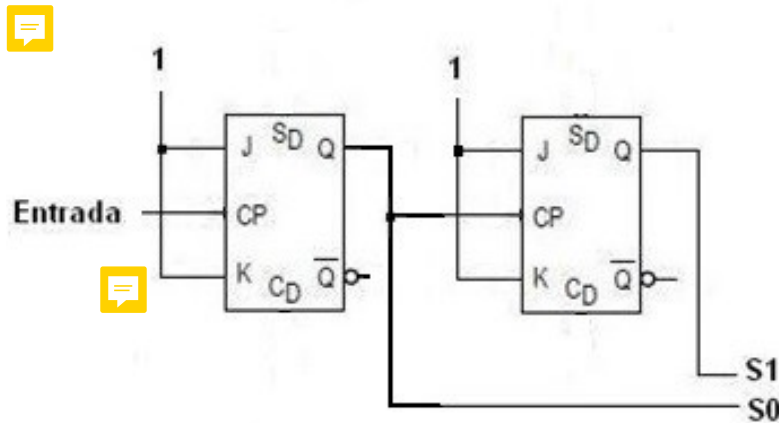

Figure 3
- b) Figure 3 shows a 2-bits downward asynchronous counter composed of two JK flip-flops.